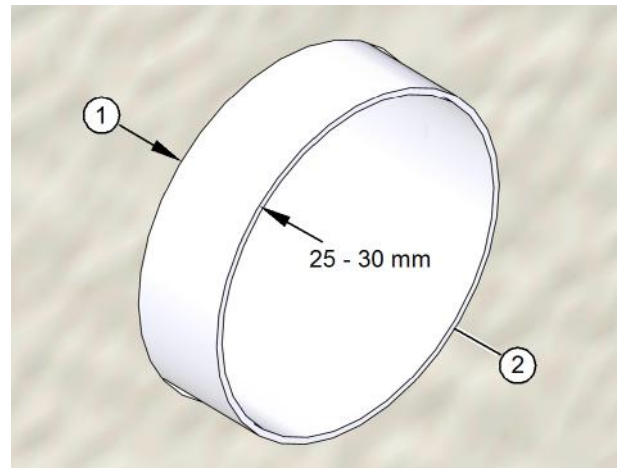

Fig. 12: Checking the ventilation pipes
- ▶ Check that the ventilation pipes protrude 25 - 30 mm beyond the external plaster (see item 1 in Fig. 12).
- ▶ Check that the cut surfaces of the ventilation pipes have been deburred (see item 2 in Fig. 12).